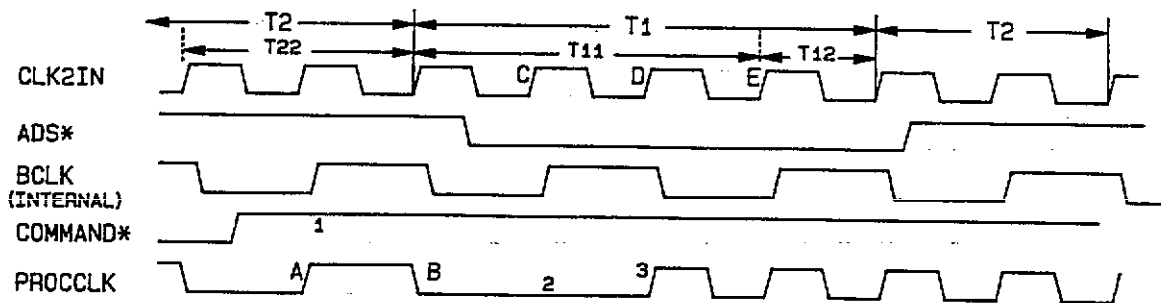

Figure 2.4 Sequence Diagram for low to High Frequency Transition
In Figure 2.4, the rising edge (A) of PROCCLK latches command inactive as denoted by sequence (1). Edge (B) disables BCLK on the PROCCLK line. In sequence (2), edge (C) of CLK2IN latches PROCCLK low. Edge (D) then enables CLK2IN on the PROCCLK line as denoted by sequence (3). If sequence (2) does not meet setup time requirements for edge (C), then the state of PROCCLK is sampled as being high in sequence (2). In this case, edge (D) samples PROCCLK low, and edge (E) enables CLK2IN on the PROCCLK line. PROCCLK does not violate the minimum and maximum 386sx clock specifications.